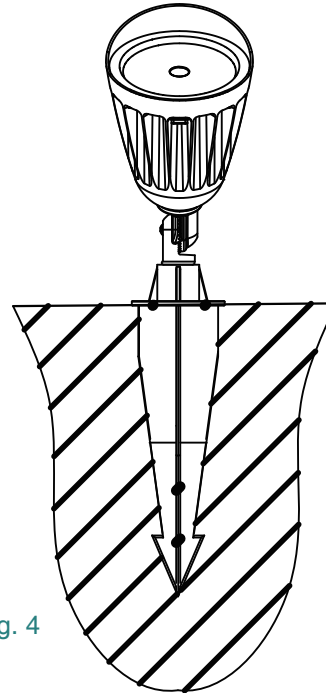

Fig. 4
- Stake fixture into the ground, aim the fixture to desired direction (Fig. 4).